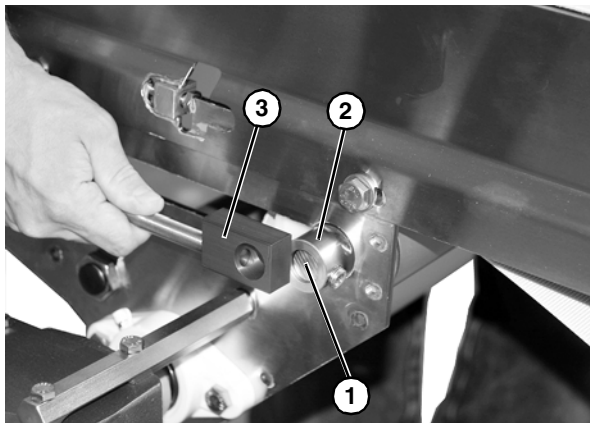

Figure 77
8. Slide in shaft (**Figure 77, item 1**) into locking collar (**Figure 77, item 2**) and remove tension block (**Figure 77, item 3**) from tensioner assembly shaft.